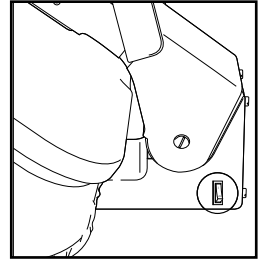

FIGURE 1
1. With Pressing Plate in lifted position, plug power cord into electrical outlet, and set On/Off Switch to “On” (I) position (FIGURE 1).
IMPORTANT: Auto Shut-Off does not mean that power to the unit is totally cut off. Power is always on, and the Power Indicator Light will remain illuminated until On/Off Switch is set to "Off" (O) position (FIGURE 1, page 6).